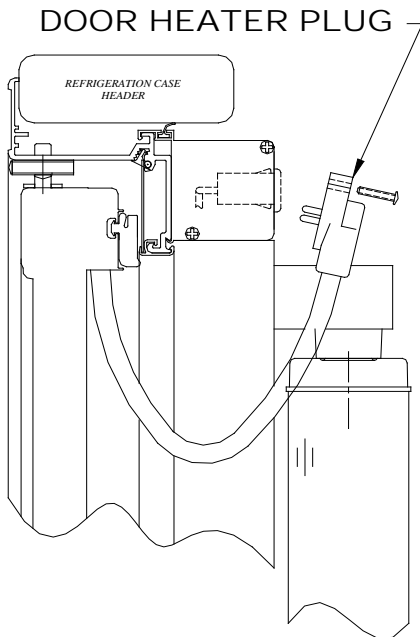

FIGURE 3.
- a) Plug cord into receptacle on the inside top of frame. (Figure 3)